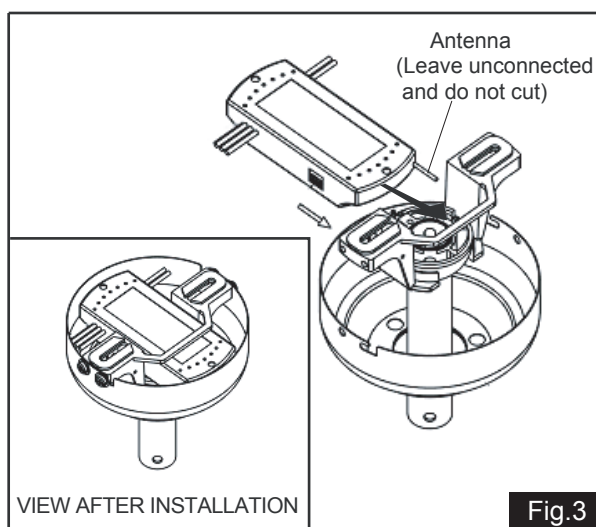

Fig.3
- 3.) Once the connection has been made, the receiver inserts into the drop rod hanging bracket. The canopy comes up to cover the receiver and bracket. (See Fig.3)